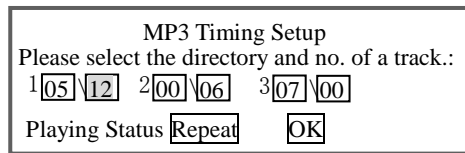

Fig. 7: MP3 Timing Setup Interface
- ① If the MP3 sound resource is selected for the timing point, press the option of "Sound Source" to access the interface of "MP3 Timing Setup", press the "◀" or "▶" key to move the cursor, press the "▲" or "▼" key to adjust the setup, and press the "OK" key for confirmation, as shown in figure 7: